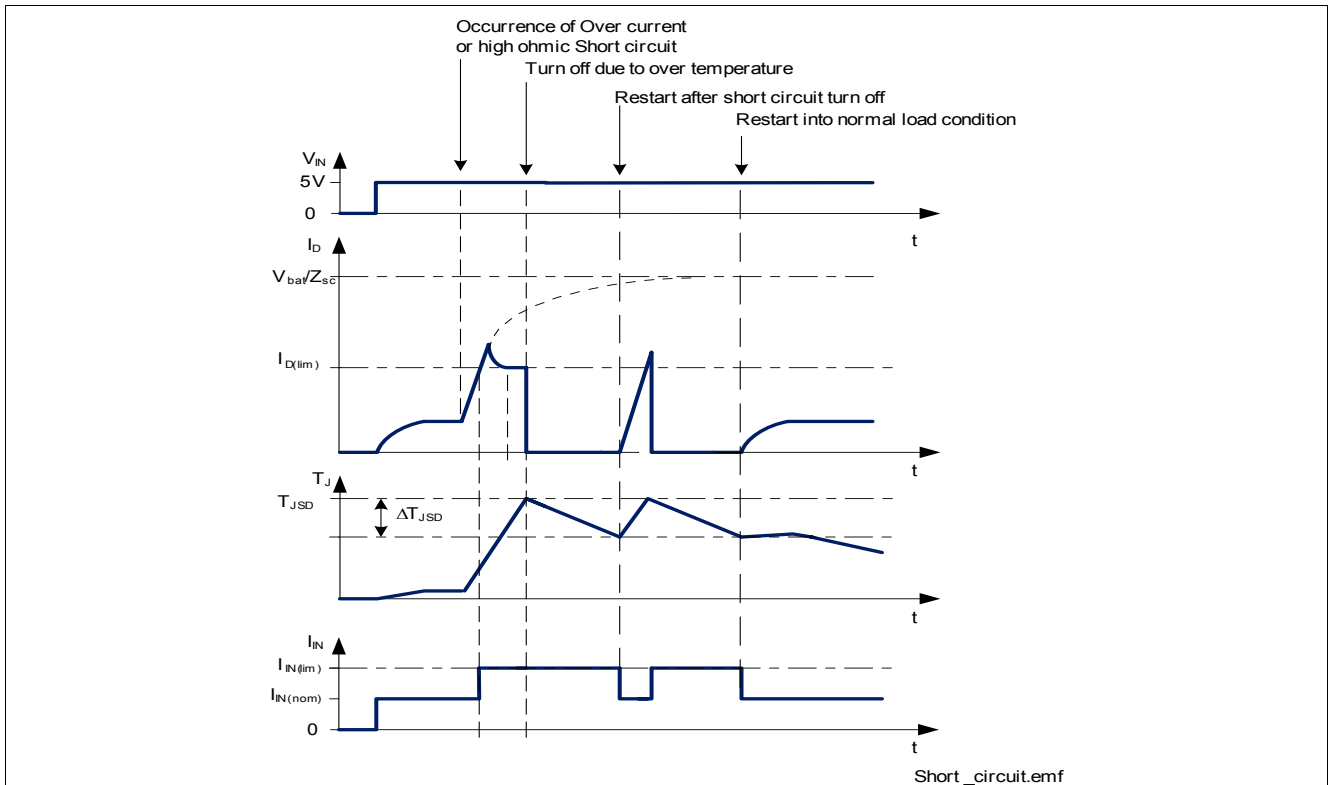

Figure 16 Short circuit protection via current limitation and over temperature switch off
Figure 16 shows the inductance / current combination the BTS3046SDR can handle.
**Figure 16** shows this behavior.